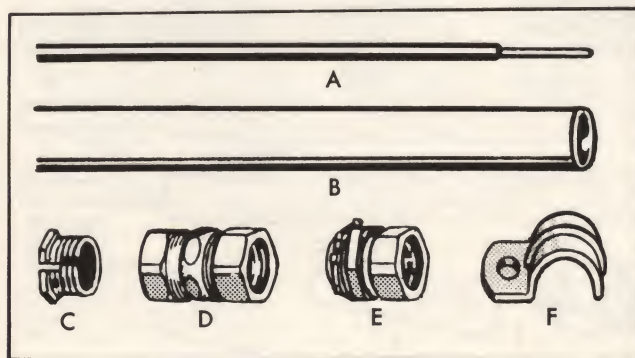

FIG. 38—CONDUIT COMPONENTS
**MAKING CONNECTIONS.** Thin-wall conduit is attached to boxes with conduit connectors. (Fig. 38-E). Fit threadless end of connector over the conduit and tighten compression nut. Then insert threaded end through knockout of box and screw locknut tightly against the box from the inside (Fig. 41). A coupling (Fig. 38-D) joins lengths of conduit together. Thin-wall tubing can be connected to rigid conduit with a threaded adapter (Fig. 38-C) which should screw into a standard pipe coupling.
**INSTALLATION PROCEDURE.** Conduit must be mounted in place and connected to switch and outlet boxes before pulling Type TW color coded wires (Fig. 38-A) into it. On new work, wires are usually pulled through after plastering is completed, but for "old," or remodelling work, this can be done at any time. Wires must be continuous inside conduit; make splices and connections *only* inside boxes. Anchor conduit to surface with a pipe strap (Fig. 38-F) every 6 feet on exposed runs; use strap every 10 feet on runs that will be concealed.